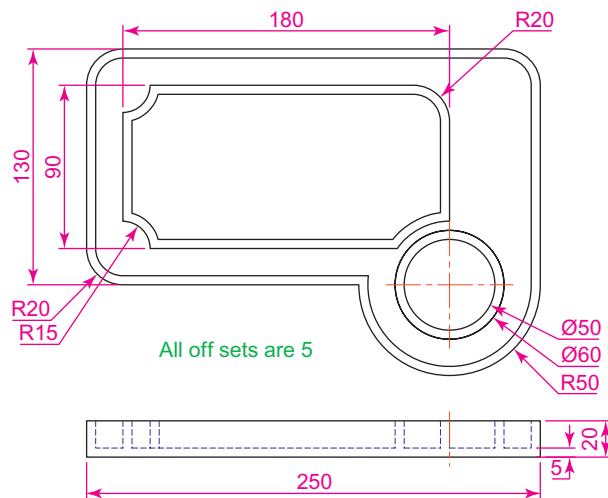

Fig. 18.11 Sixth example – Copy Faces tool – details of the 3D solid model
1. Construct a 3D model to the sizes as given in Fig. 18.11.